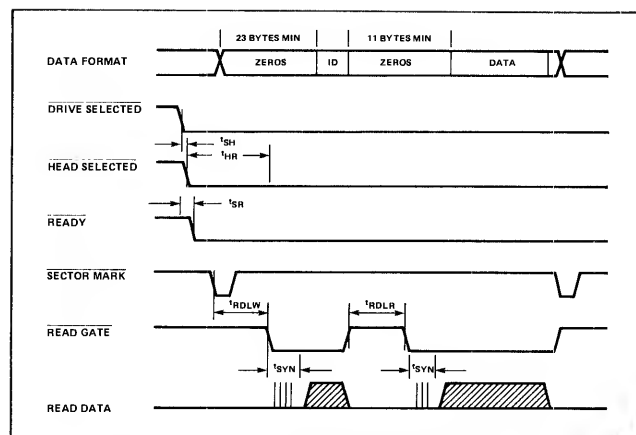

Figure 3-39. Record Reading Timing
8. **Record Reading** Figure 3-39 shows the timing requirements for reading full sectors (ID and data fields) and also for reading data fields only. The AC characteristics are listed in Table 3-15.